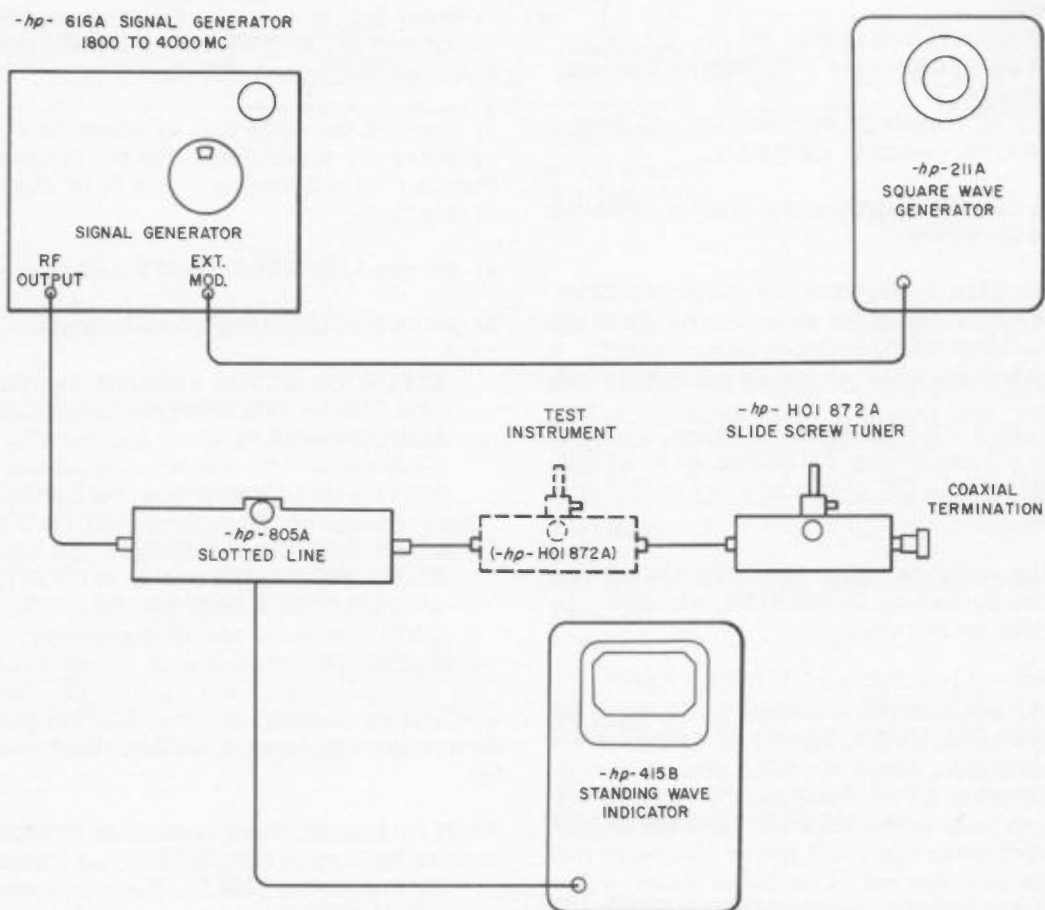

Figure 6-1. H01 872A Slide Screw Tuner Check
1) Connect the equipment as shown in Figure 6-1. Throughout this procedure, the H01 872A being calibrated will be referred to as the "H01 872A under test." The H01 872A used in the test set-up will be referred to as the "calibrating H01 872A."
- 1) Connect the H01 872A under test to the 805A Slotted Line as shown in Figure 6-1. Omit the calibrating H01 872A Slide Screw Tuner from the setup.